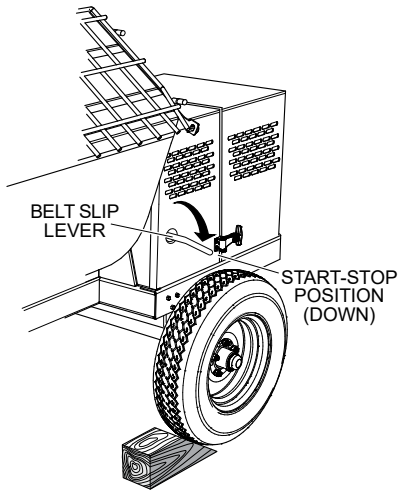

Figure 23. Belt Slip Lever (START/STOP Position)
- Place the belt slip lever in the **START/STOP** (disengaged) position. See Figure 23.